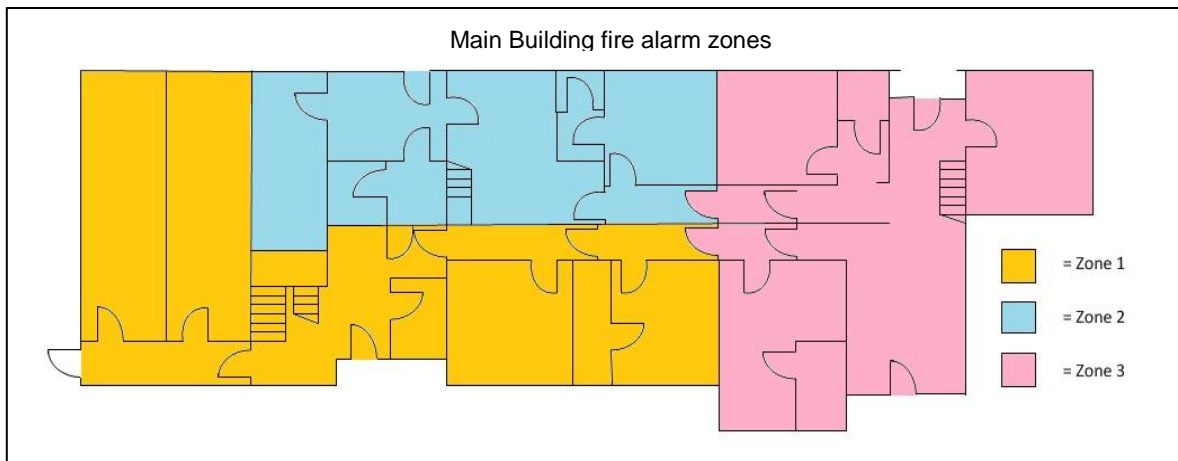

Figure 1: Fire alarm zones indicated on a floor plan
- Drawings or plans such as those showing fire alarm zones as in Figure 1, or simple hand-drawn layouts may be useful to mark up the location of equipment.